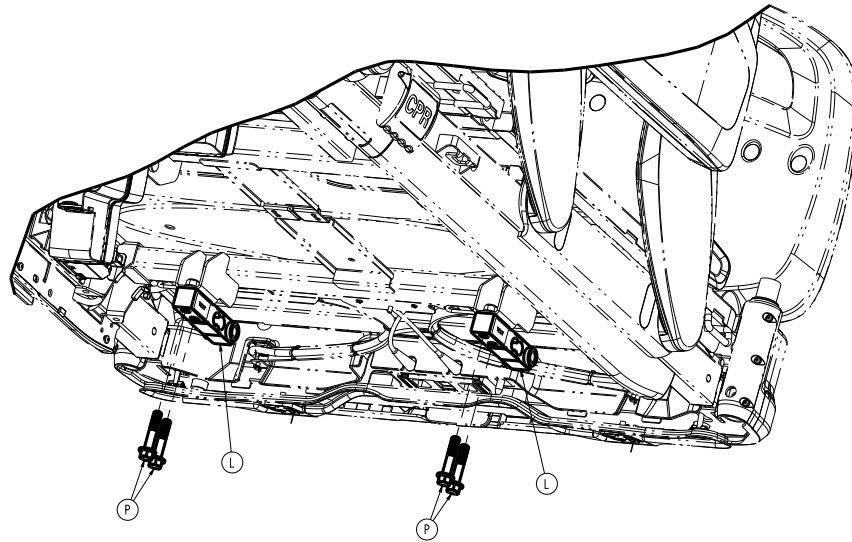

Figure 49 – Replacing the load cell
8. Unplug the load cell (L) (Figure 49).
11. Remove the load cell. Using a ratchet, 9/16" socket, and a 9/16" combination wrench, remove the two bolts (P) and nuts that secure the load cell (L) to the litter frame (Figure 49). Save the bolts and nuts.